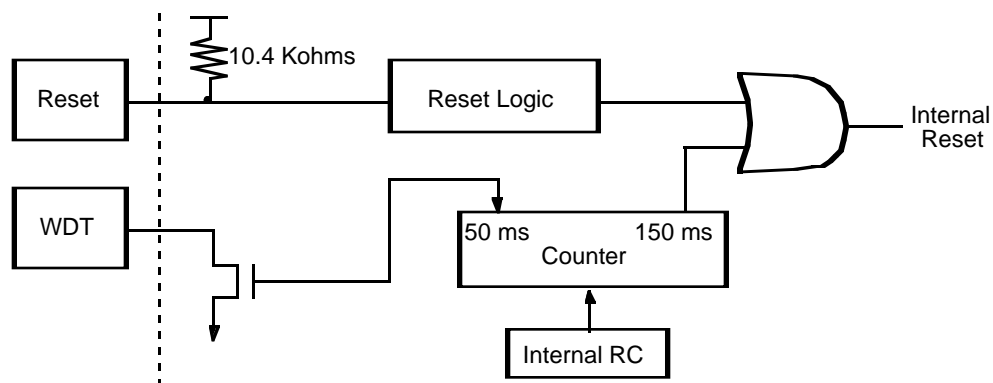

Figure 16. WDT Block Diagram
**Watch-Dog Timer (WDT).** The Z08615 is equipped with a hardware Watch-Dog Timer which will be turned on automatically by power-on (Figure 16). The Watch-Dog Timer must be refreshed at least once every 50 ms by executing the instruction WDT (Opcode = %5F), otherwise the Z08615 will reset itself if  $\overline{\text{WDTOUT}}$  pin 9 is connected to  $\overline{\text{RESET}}$  (Pin 6). Figure 16 shows the block diagram of WDT.